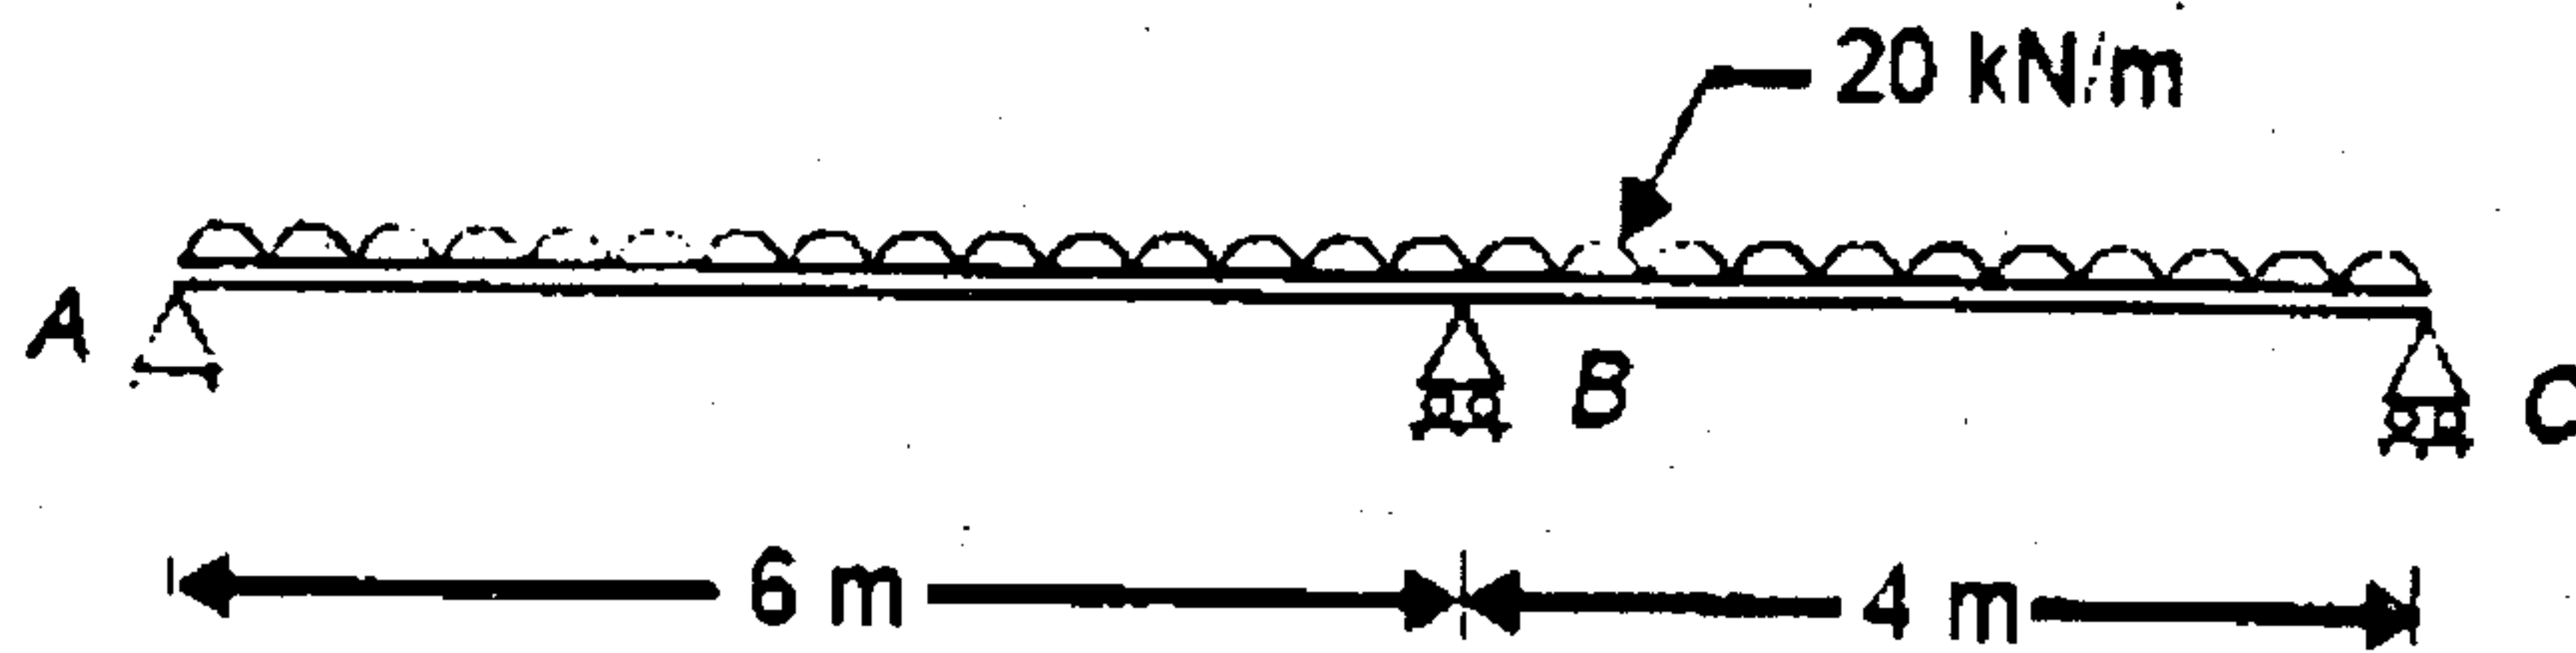

Fig. 1
- (b) Analyze the beam shown in Fig. 1 using finite element technique. Determine the rotations at the supports. Given $E = 200\text{GPa}$ and $I = 4 \times 10^6 \text{ mm}^4$.